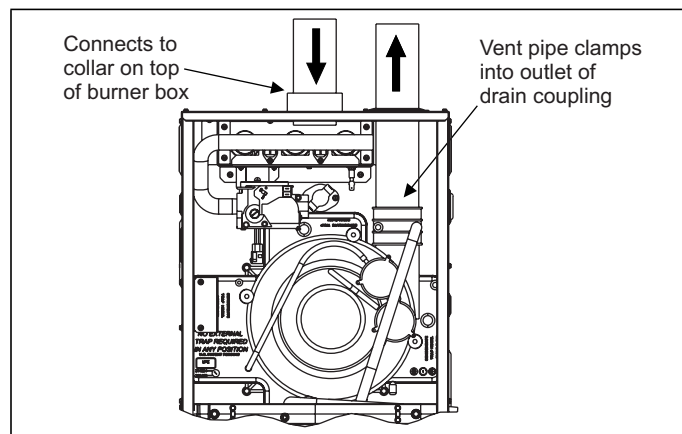

FIGURE 31: Direct Vent Air Intake Connection and Vent Connection
1. **OUTDOOR COMBUSTION AIR:** This is a direct vent configuration where the combustion air is supplied through a PVC or ABS pipe that is connected to the PVC coupling attached to the furnace and is terminated in the same atmospheric zone as the vent. This type of installation is approved on all models. Refer to Figure 31.
This installation requires combustion air to be brought in from outdoors. This requires a properly sized pipe (shown in Figure 31) that will bring air in from the outdoors to the furnace combustion air intake collar on the burner box. The second pipe (shown in Figure 31) is the furnace vent pipe.